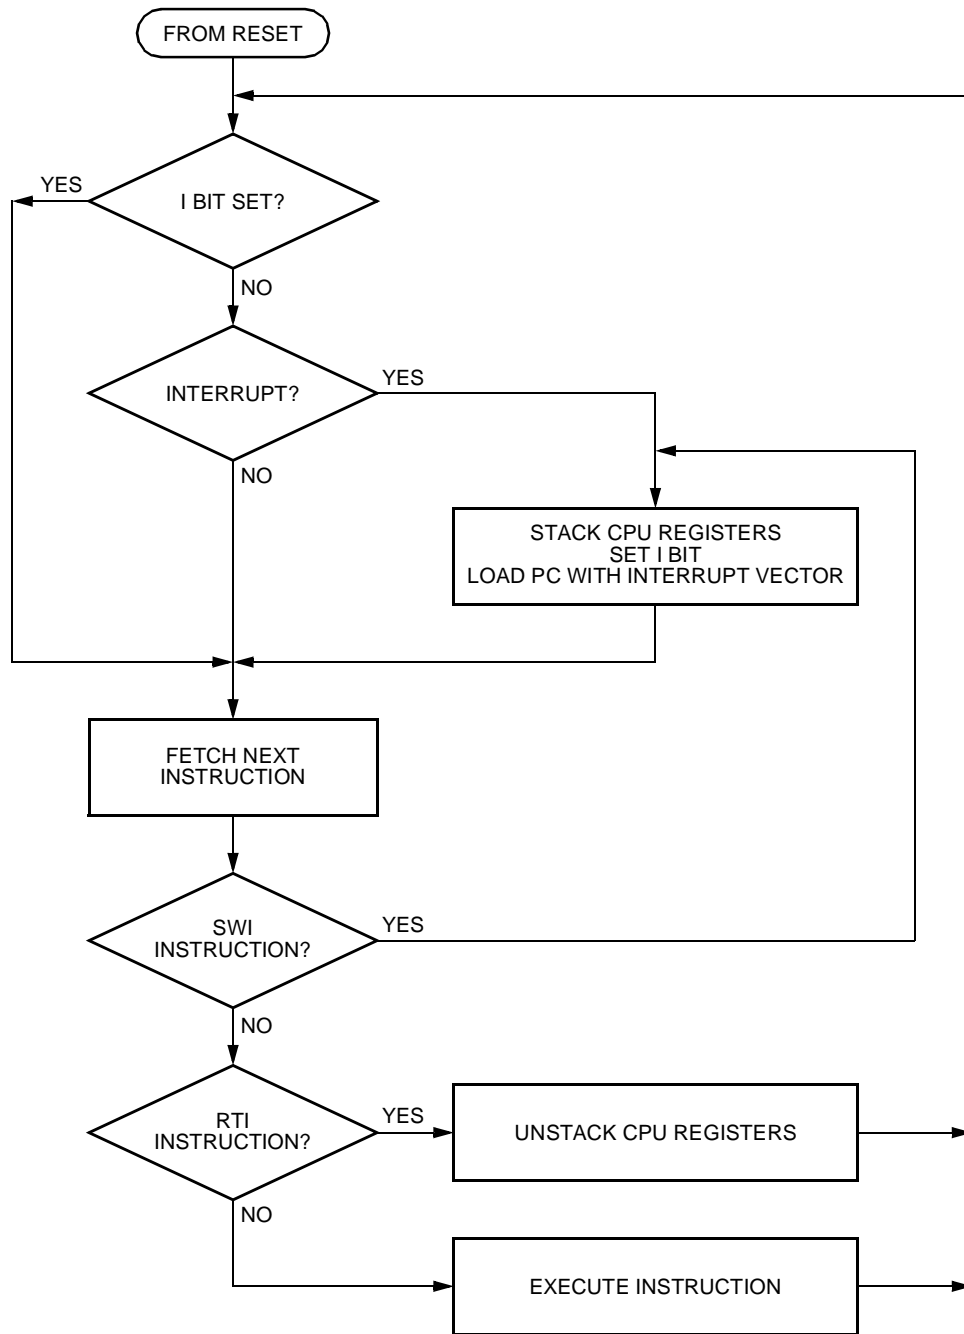

Figure 11-2. IRQ Interrupt Flowchart
NOTE: *The interrupt mask (I) in the condition code register (CCR) masks all interrupt requests, including external interrupt requests. (See Figure 11-2.)*